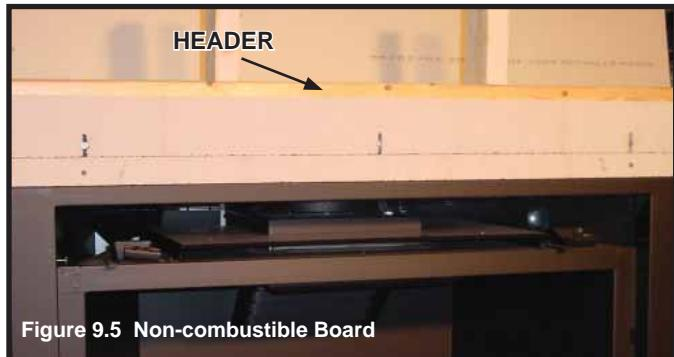

Figure 9.5 Non-combustible Board
The factory supplied non-combustible board spans the distance from the top of the fireplace to the center of the framing header. This board must be used. See Figure 9.5.
**WARNING! Risk of Fire!** Non-combustible board must be installed across the top of the fireplace per Figure 9.5.